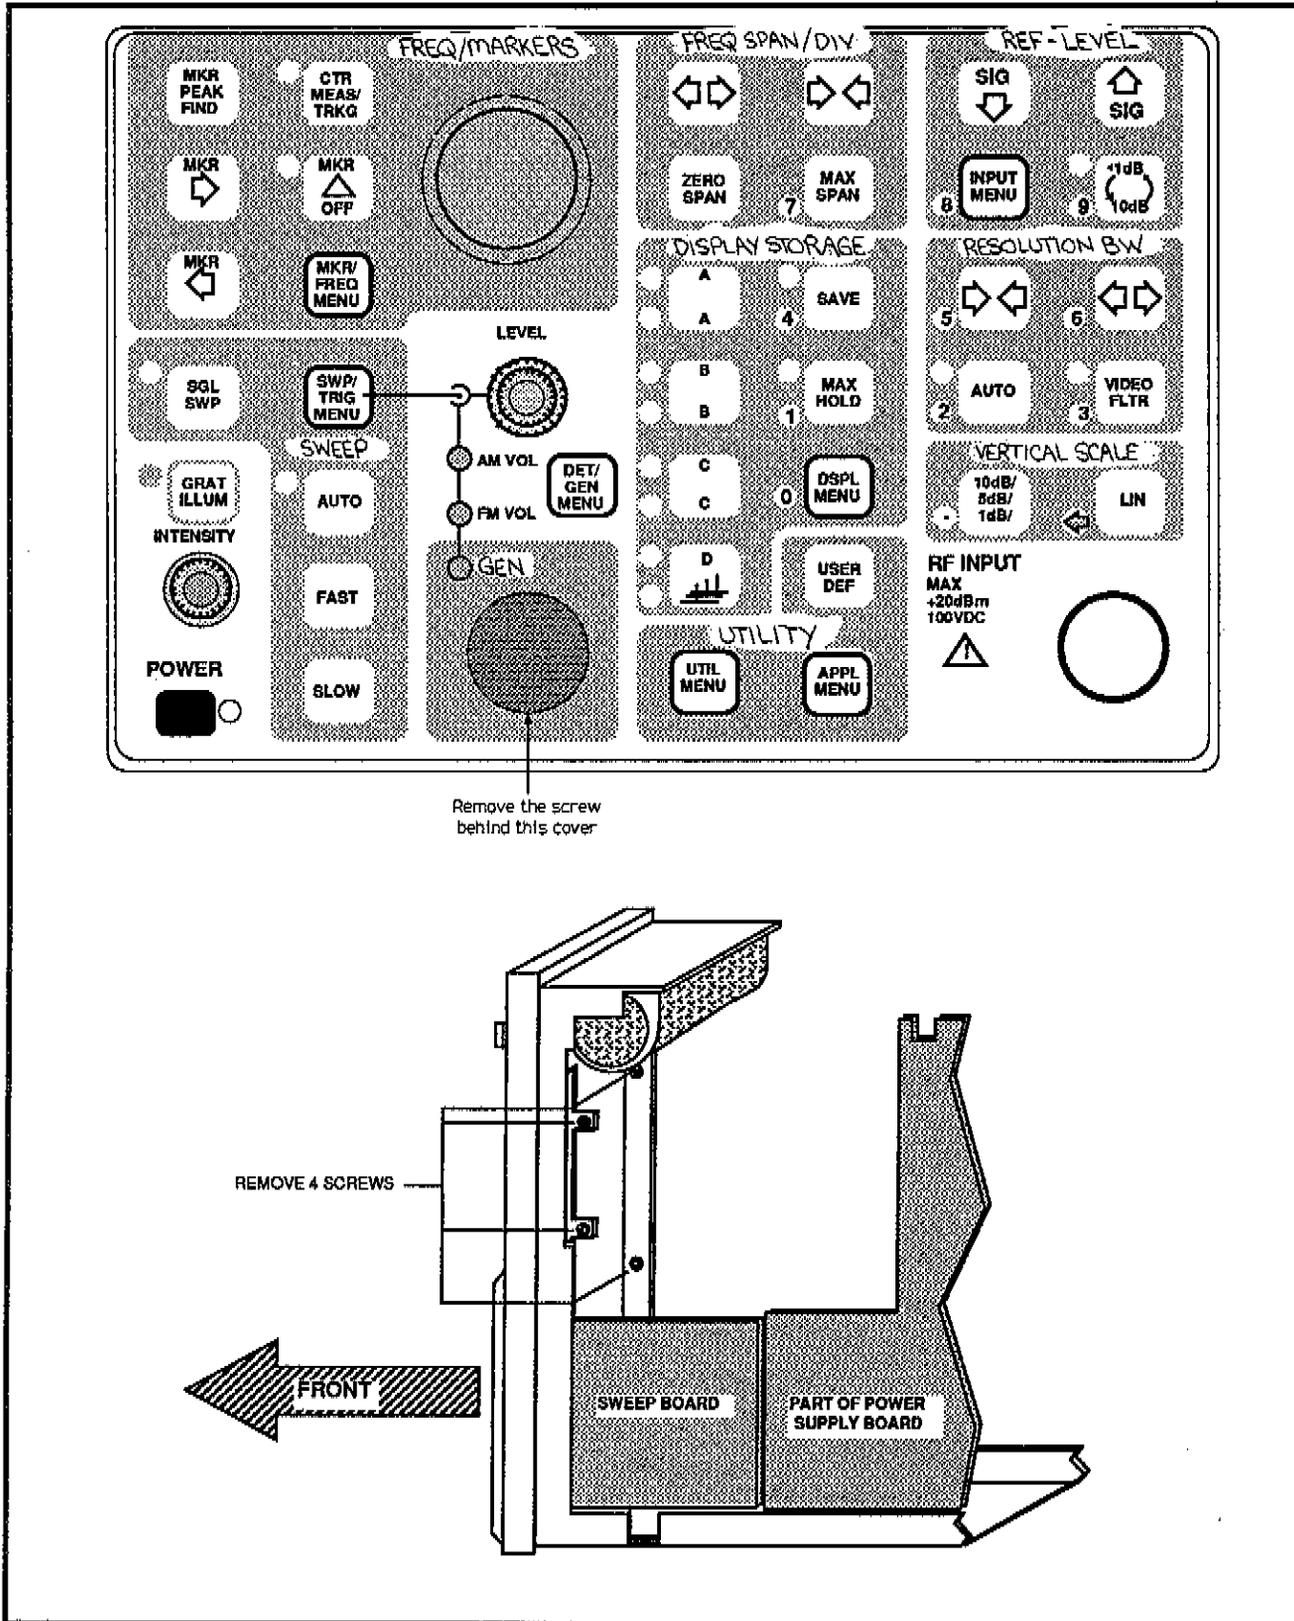

Figure 5-9. Removing the Front Panel.
5. Remove the front, plug-in circuit board guide plate by removing four screws, two at the top and two at the bottom. See Figure 5-9.
7. Remove the small cover on the front panel by removing a screw and washer behind the front panel (Figure 5-9).
If Option 04 is installed, the small cover and screw in Figure 5-9 are replaced by an output connector. In that case, remove the nut and washer on that connector.